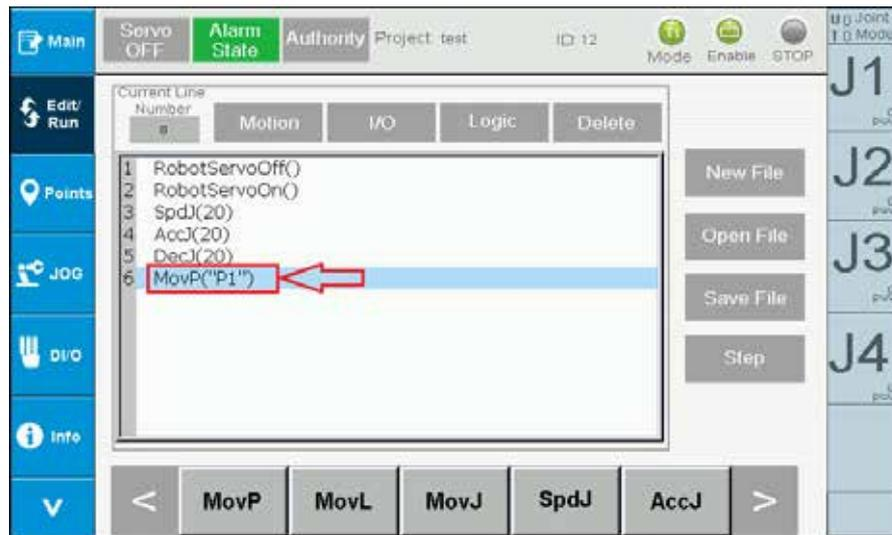

Figure 2-9 Edit/run program for the robot - Select input position
1. Click above the row number you want to enter on the RL editor, shown as Figure 2-9.